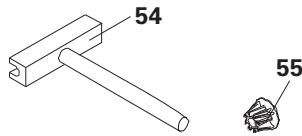

Fig. B8.02
- tie rod wrench (54) for tie point operations is used by one worker from one side only
- plugs (55) for closing unused tie holes (Fig. B8.02)